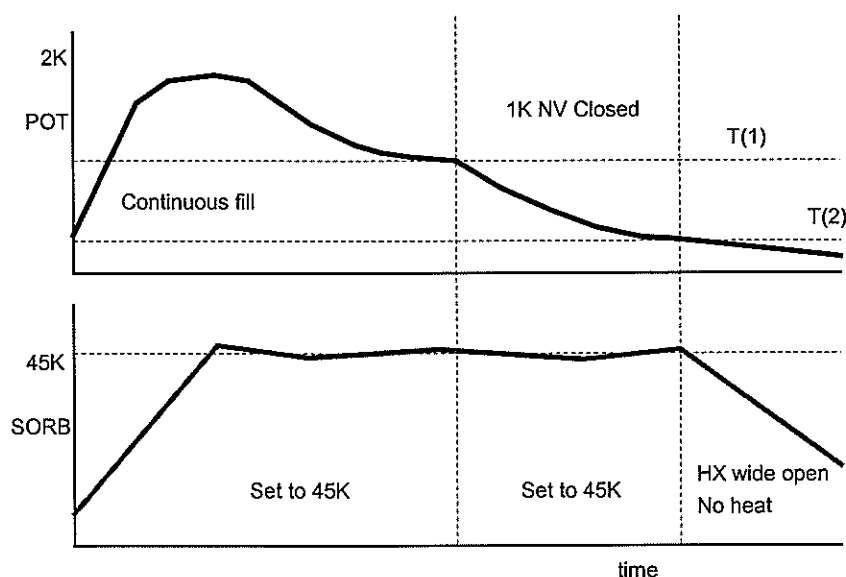

Figure 4 - Sorb and pot temperatures during condensation
In Figure 4, a schematic representation of sorb and pot temperatures is given over the time taken to recondense the  $^3\text{He}$ . The temperatures T(1) and T(2) are threshold values defined in the Heliox setup and discussed in more detail in that section.